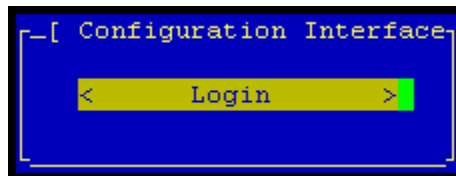

Figure 222. Opening the Configuration Interface
When the session is established, the Configuration Interface window opens, shown in Figure 222.
5. Type start and press Enter. When the session is connected to the SSM, the Configuration Interface window opens, shown in Figure 222.